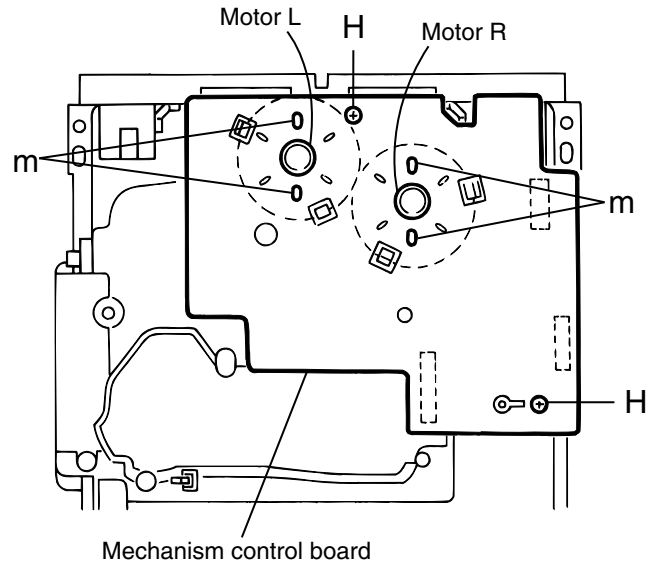

Fig.14
■ Removing the mechanism control board (See Fig.14, 15)
1. Absorb the four soldered positions m of the right and left motors with a soldering absorber(See Fig.14).
2. Remove the two screws H retaining the mechanism control board(See Fig.14).